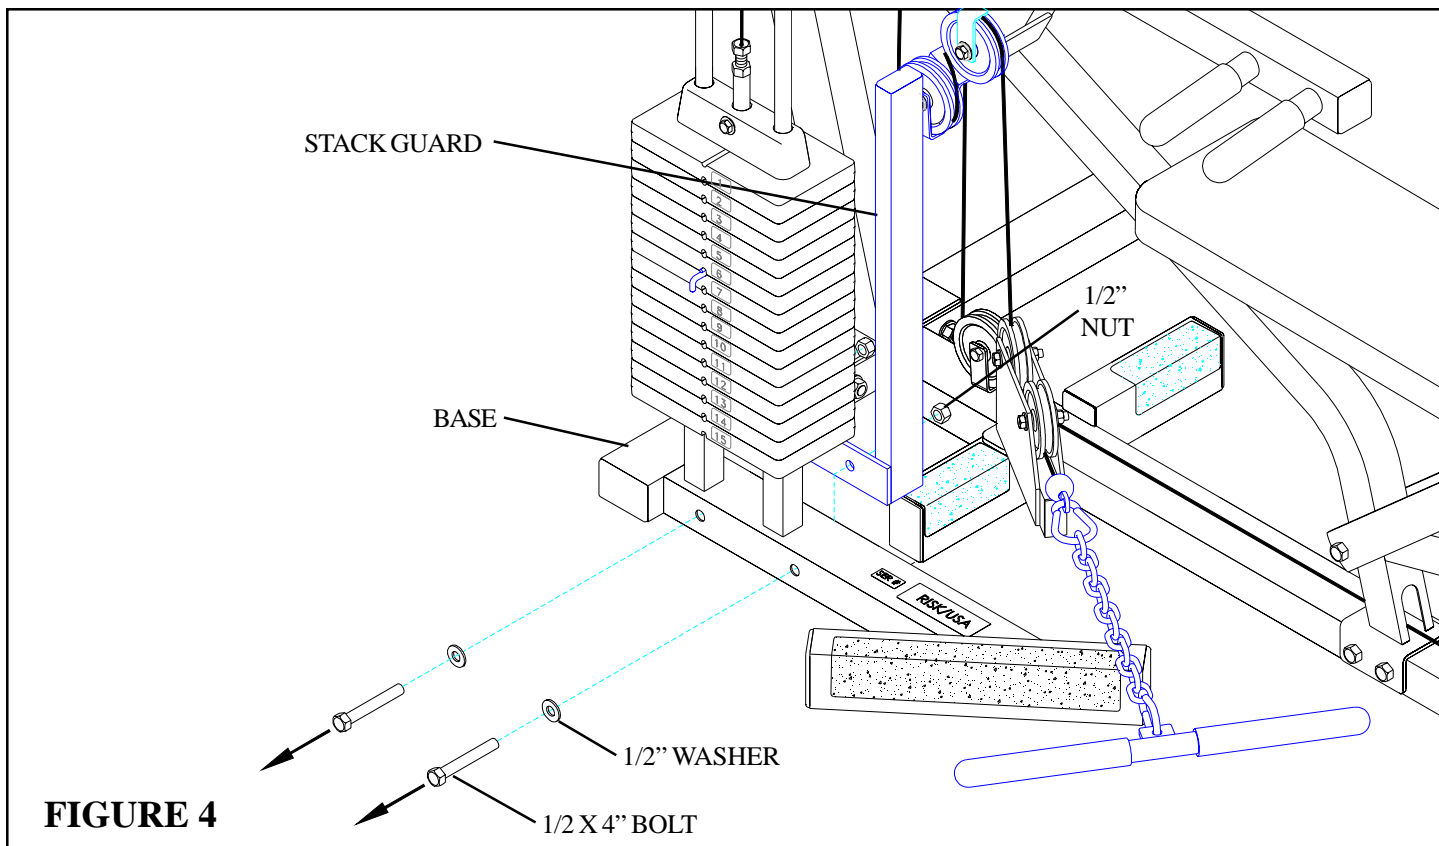

FIGURE 4
- Remove two 1/2 X 4" BOLTS, two 1/2" WASHERS, and two 1/2" LOCK NUTS from the BASE and STACK GUARD as shown in FIGURE 4. (NOTE: Discard the 1/2 X 4" BOLT.)